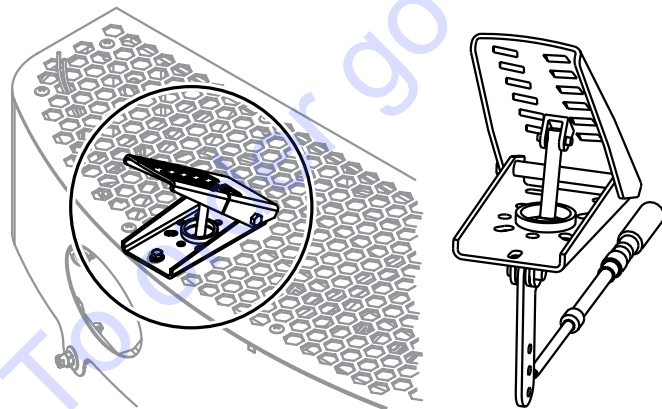

Figure 21. Blade Speed Control Foot Pedal
8. The foot pedal (Figure 21) controls blade speed. Slow blade speed is obtained by slightly depressing the foot pedal. Maximum blade speed is obtained by fully depressing the pedal.